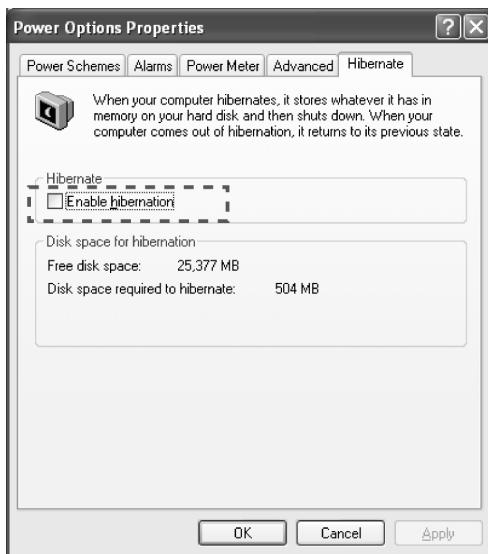

Figure 2-8. Power Options Properties dialog box (Hibernate)
6. Click Hibernate tab and make sure Hibernate is disabled (Figure 2-8).